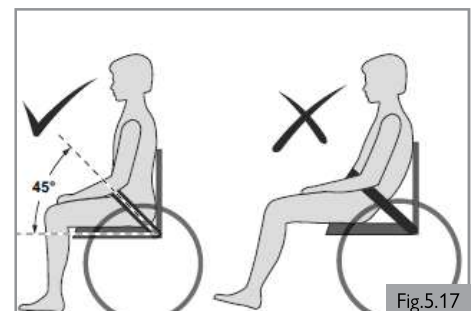

Fig.5.17
3. Generally, the lap belt should be fixed so that the straps sit at an angle of approximately 45° (Fig. 5.17), and when correctly adjusted should not allow user to slip down in the seat.